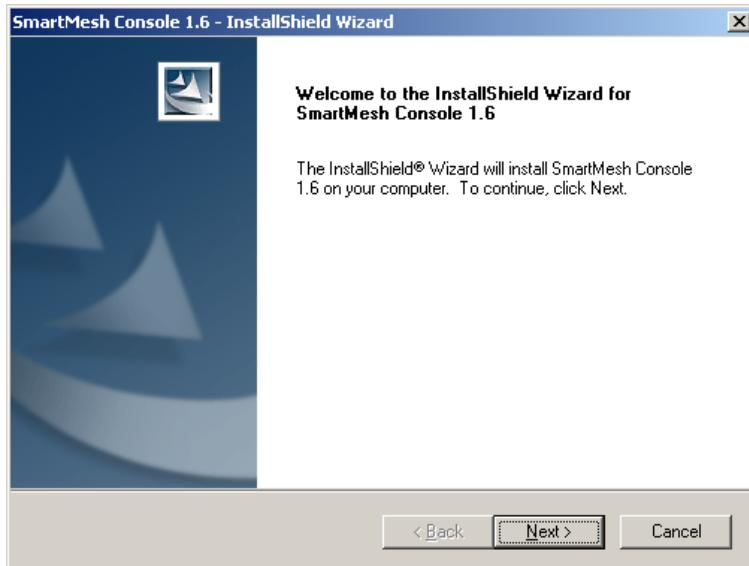

Figure 2-7: SmartMesh Console 1.6 Installation Wizard
1. Smart Mesh Console Installer starts Automatically, see Figure 2-7.